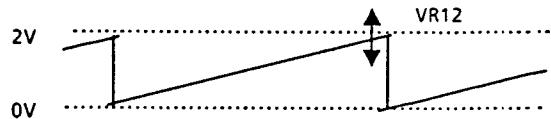

Fig. 4-20
- Adjust VR12 so that the peak level of sawtooth waveform becomes 2 V p-p . (Fig. 4-20)